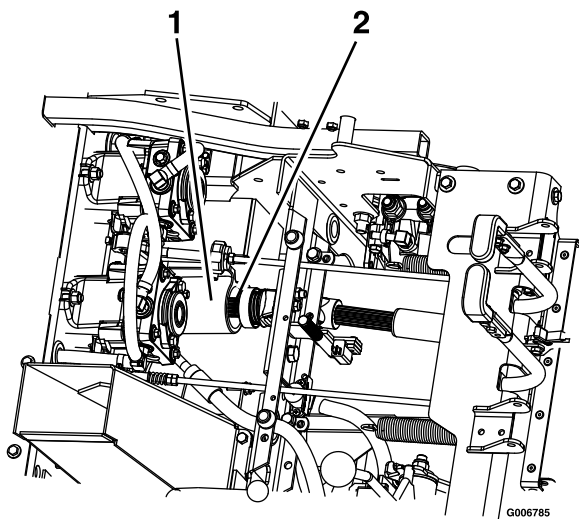

Figure 72
8. Raise the seat and disconnect the drive shaft using the quick coupler at the jackshaft (Figure 72).
3. Raise the seat and install the 1 drive shaft onto the jackshaft (Figure 72)